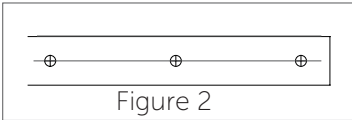

Figure 2
3. Adjust the placement of the hanger for a 2-3/8" gap between the top of the door and the bottom of the wheel. Ensure the hanger is positioned so that the holes are 1" and 5-1/8" from the side of the door (Figure 2).
4. Mark the center of each installation hole with a pencil (Figure 2).
3. Hold the track up to where the pencil line is visible through the holes in the track. Mark an intersecting line in the center of each hole (Figure 2).